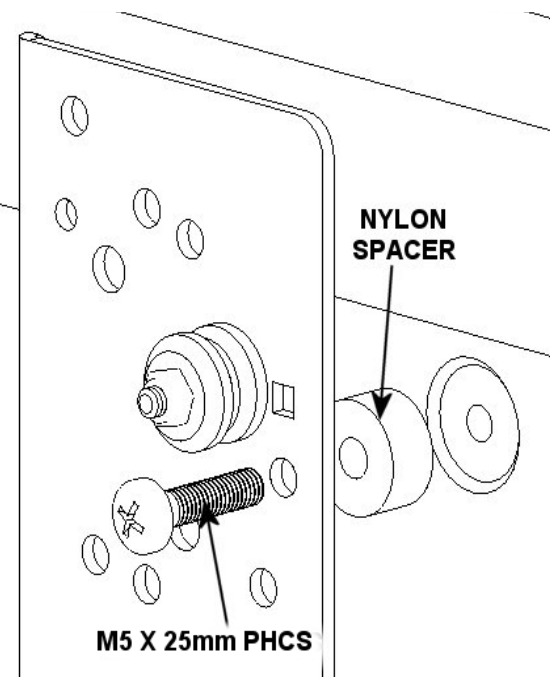
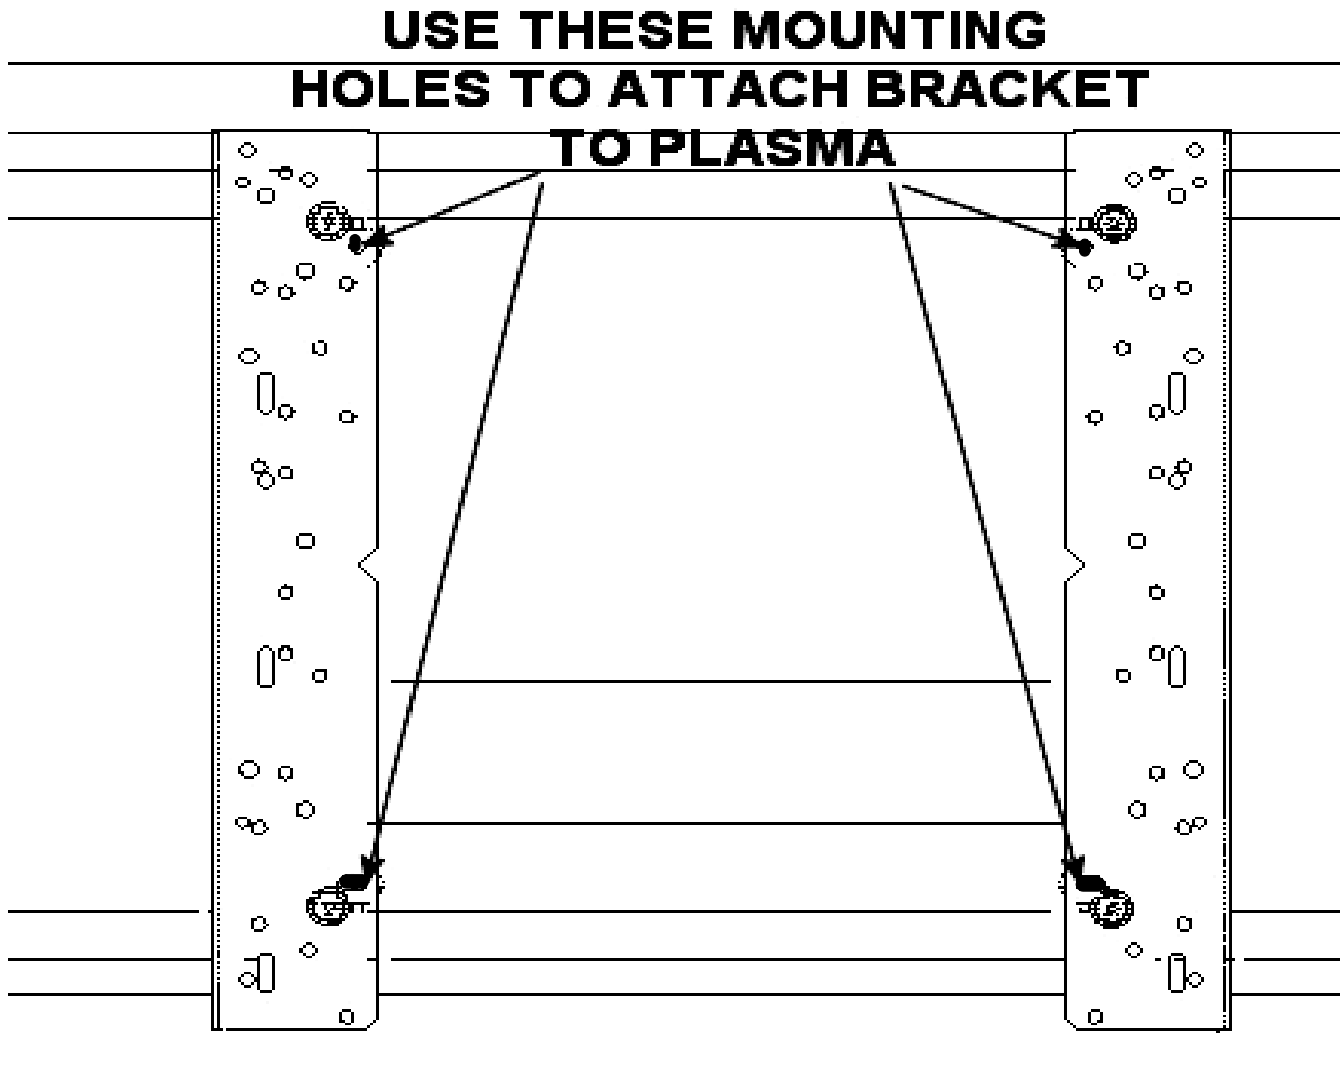

Figure 7. Spacer Installation for Group 1
Figure 8. Bracket Attachment for Group 1
3. Place the Nylon spacers over the mounting holes on your Large Flat Panel display (see Figure 7).
4. Place the interface brackets over the Nylon spacers (see Figure 7 and Figure 8).
6. Using the hardware in the parts bag labeled G, attach the interface bracket to your Large Flat Panel display using the holes that line up with your Large Flat Panel display mounting holes (see Figure 7 and Figure 8). Do not overtighten the mounting screws.